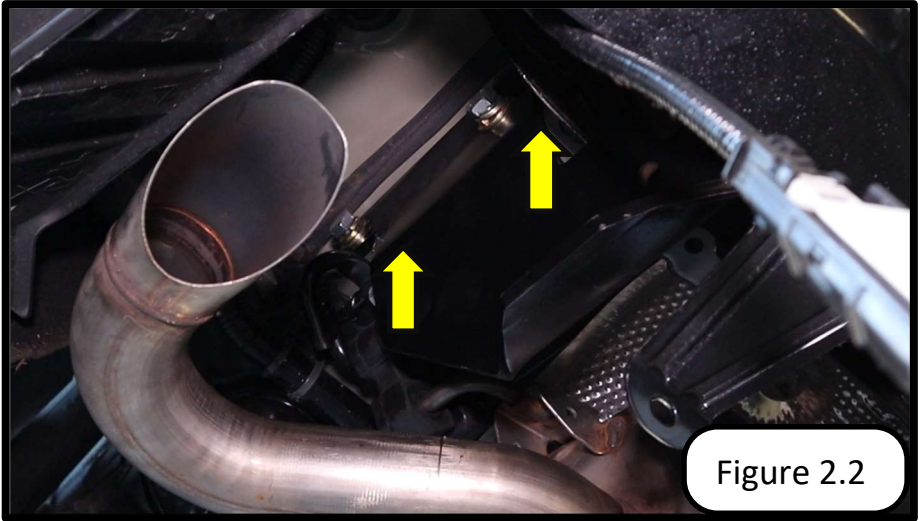

Figure 2.2
- Partially thread one M12 bolt into each mounting hole. See Figure 2.2.